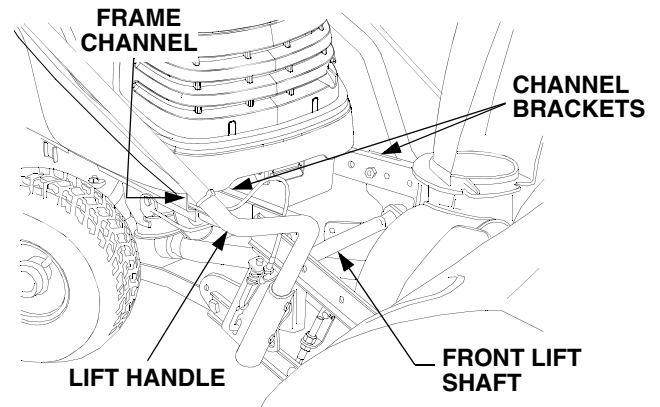

Figure 17
**NOTE:** To ease insertion into the tractor frame channels, apply a light coating of grease to the channel brackets of the snow thrower hitch assembly (Refer to Figure 17).
9. Pull the snow thrower assembly forward to disengage the channel brackets from the tractor frame channels (Refer to Figure 17).